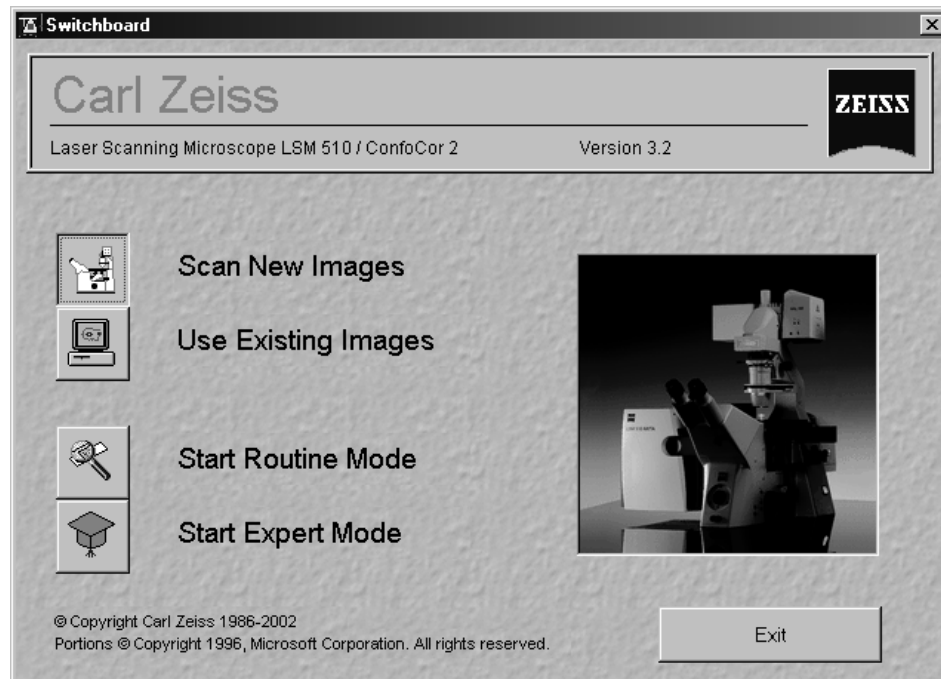

Fig. 4-8 LSM-FCS Switchboard menu
- The **LSM-FCS Switchboard** menu appears on the screen (see Fig. 4-8).